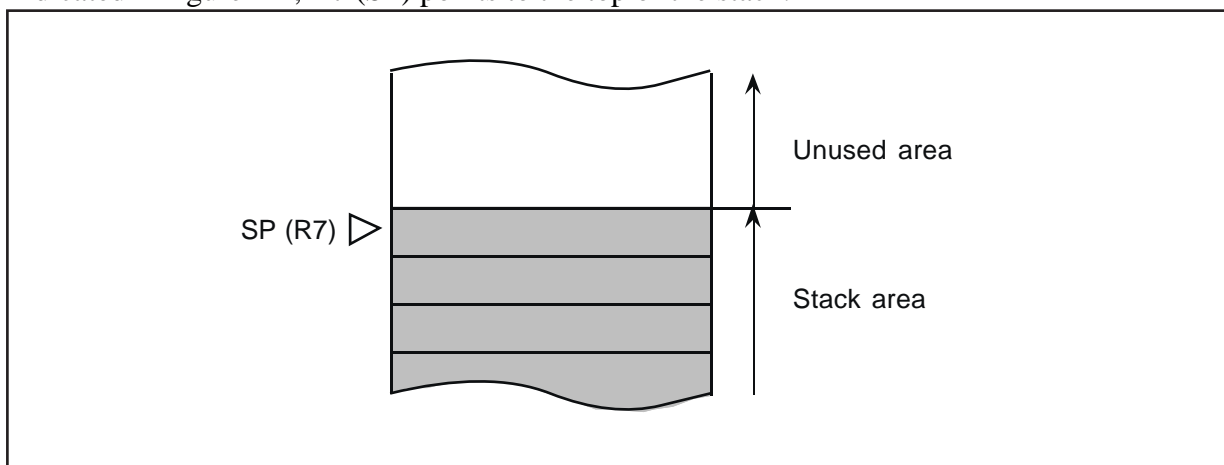

Figure 1-4. Stack Pointer
R7 also functions as the stack pointer, used implicitly by hardware in processing interrupts and subroutine calls. In assembly language, the letters SP can be coded as a synonym for R7. As indicated in figure 1-4, R7 (SP) points to the top of the stack.